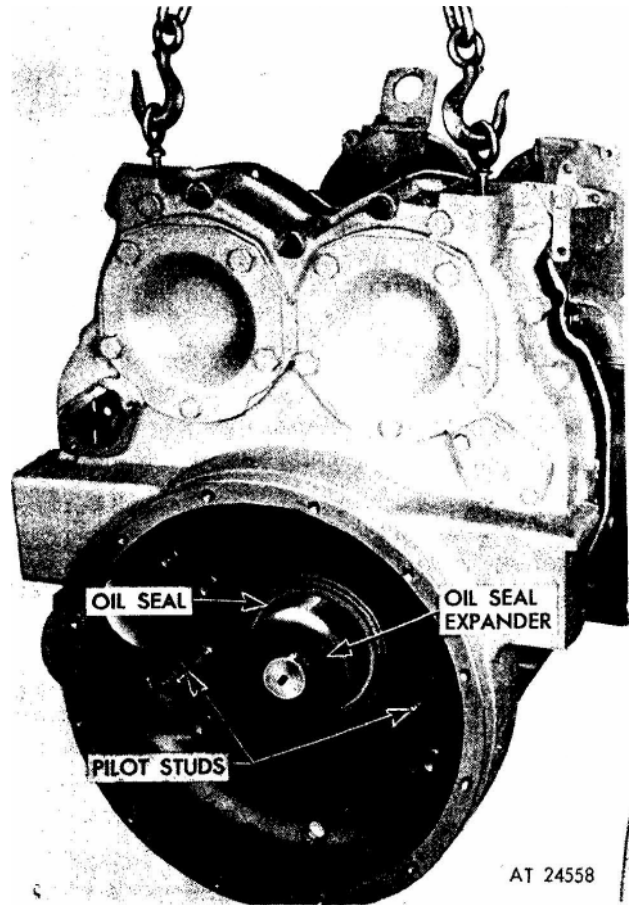

Figure 1. Installing flywheel housing.
7. To guide the flywheel housing until the oil seal clears the end of the crankshaft, thread two pilot studs, J 7540, into the cylinder block (fig. 1).
8. Thread eyebolts into the tapped holes in the pads (if provided) on the top or sides of the flywheel housing, and attach a chain hoist with a suitable sling to the eyebolts (fig. 1). Then strike the front face of the housing alternately on each side of the engine with a soft hammer to loosen and work it off the dowel pins.
5. To pilot the oil seal on the crankshaft successfully, use oil seal expander J9769 (standard size seal) of J 21278 (oversize seal) on the end of the crankshaft. Also thread two pilot studs, J 7540, into the cylinder block to guide the housing in place (fig. 1).